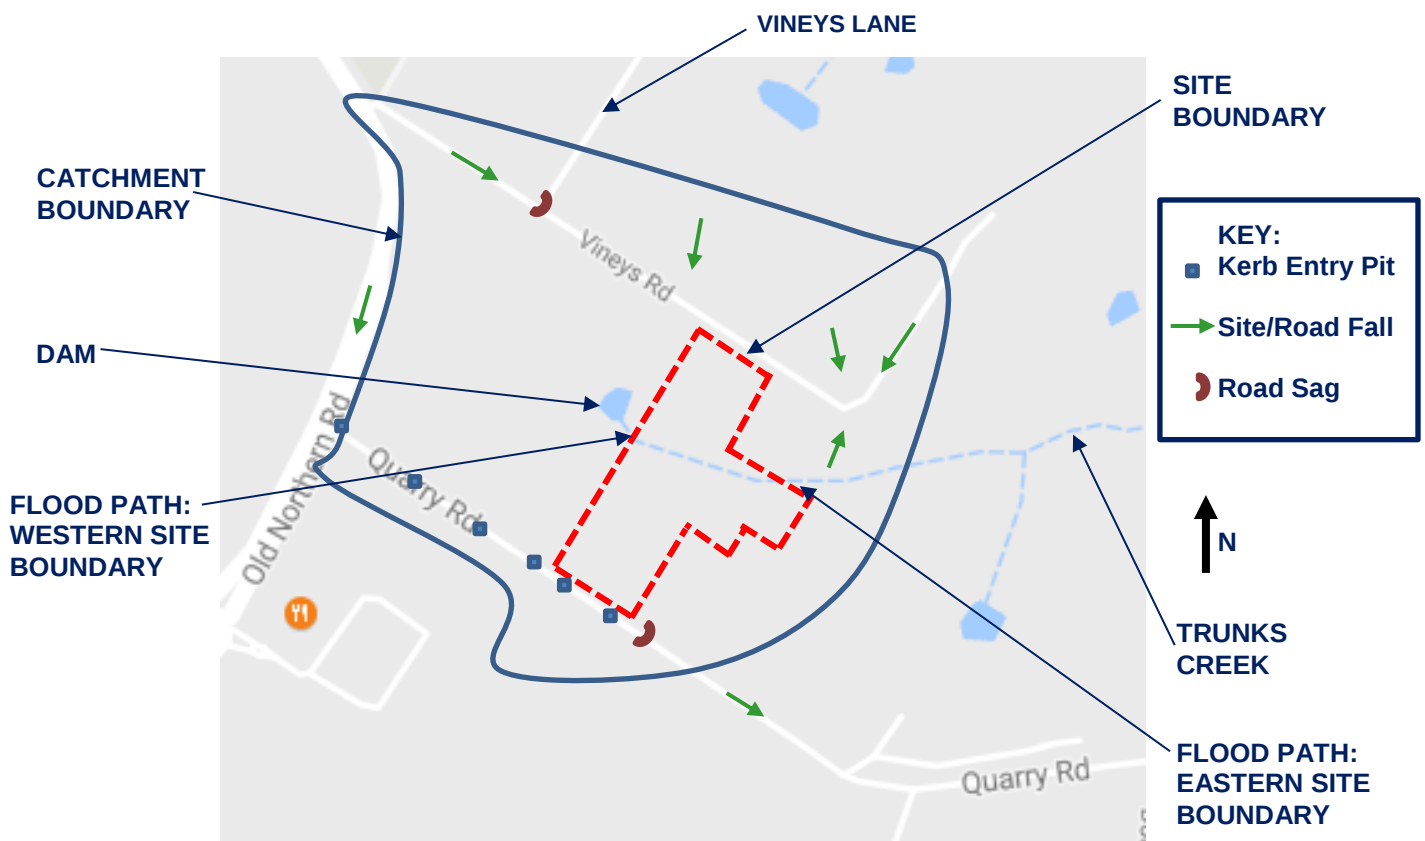

Figure 2 – Site Survey Plan
- ❖ Figure 2 Upstream Catchment Analysis – Proposed Condition Basement 2
A site survey was conducted on Wednesday, 14th December 2016. The survey shows site analysis around the catchment boundary and the site boundary as shown in *Figure 2*. The flood analysis catchment boundary is along Old Northern Road and includes the sub-catchments from Quarry Road and Vineys Road. The northern site boundary meets Vineys Road and the southern boundary meets Quarry Road.
The site survey images 1 to 9 (see *Attachment 3*) show the site grading catchment area by green arrows in the *Figure 2* below. The overall site falls west to east towards the path of Trunks Creek. Old Northern Road falls towards Quarry Road. Vineys Road and Quarry Road both have a falling gradient towards east. Refer to *Figure 2* below for an overall site survey plan.
The site survey shows the location of a dam near the western site boundary which has a flow path through the site and forms a gully leading to a creek downstream. There is a road sag on Vineys Road near the intersection of Vineys Lane. There is another road sag on Quarry Road east of site as shown by the *Figure 2* below. Kerb entry pits were found in the site survey along Quarry Road.